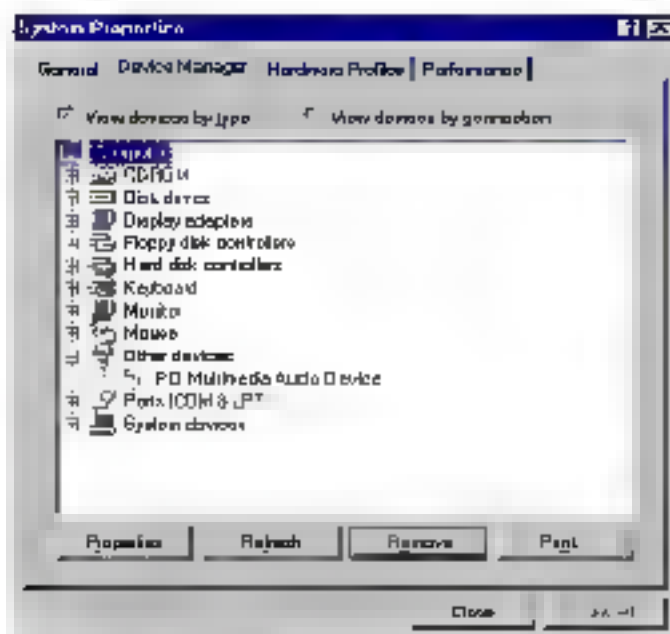

Figure 2-1 The Device Manager of System Properties
- ① **Installing the Driver** Installed into Windows 95/98, you will find a Yellow question mark still exists in the **Other Devices** of the **Device Manager** of system Properties shown in Figure 2-1 below. Please **don't** remove it and then follow the steps below.